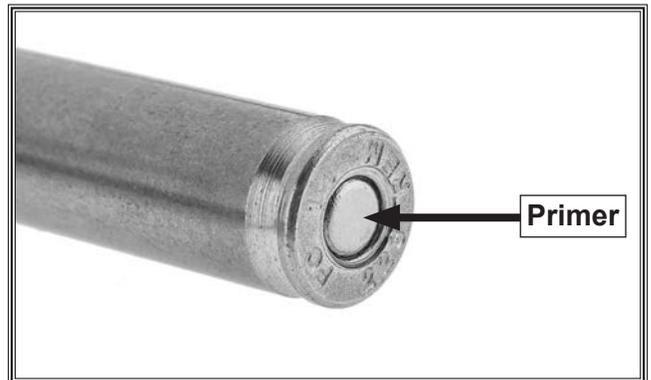

Figure 7. Primer seated into case.
- Remove brass case (see **Figure 7**) and visually inspect it to see how far primer is seated. If brass case does not slide out of shell holder freely, turn knurled cap a few turns clockwise and lower handle to seat primer deeper until case slides out freely.